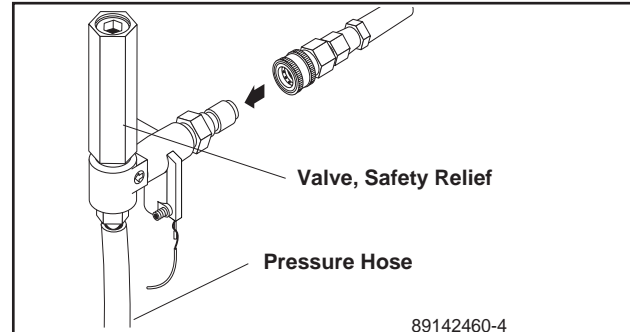

Figure 2 - Pressure Hose
2. Install the pressure hose on the pressure washer as shown in **Figure 2**.